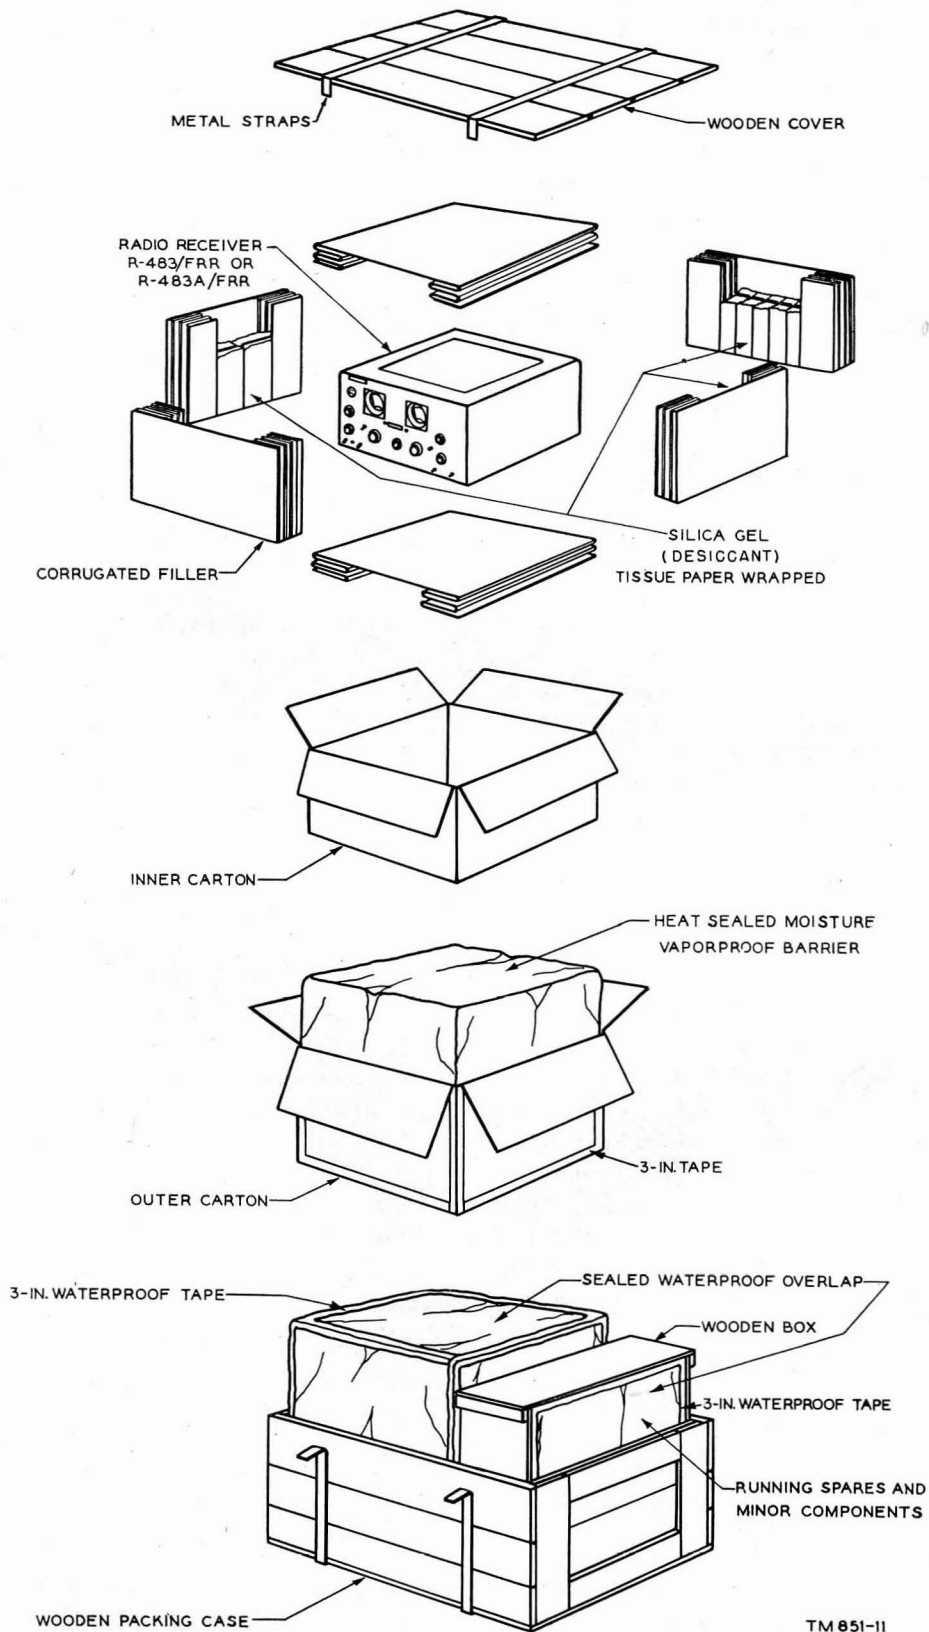

Figure 12. Packing and packaging Radio Set SCR-244-D and running spares.
*b. Step-by-Step Instructions for Uncrating and Unpacking Export Shipments* (fig. 12).
- (1) Place the packing case near the operating position.
- (2) Cut and fold back the metal straps.
- (3) Remove the nails with a nailpuller to remove the top of the packing case.
- (4) Remove excelsior, if any, from around the cartoned receiver, the cartoned operating components, and the running spares.
- (5) Remove the cartoned receiver and the wooden box containing the cartoned running spares and accessories.
- (6) Remove waterproof tape from the waterproof overwrap around the cartoned receiver, and then remove the paper.
- (7) Open the carton and remove the inner carton containing the receiver.
- (8) Remove the heat-sealed, moisture-vapor-proof bag from around the inner carton.
- (9) Open the inner carton and remove the silica gel desiccant (nine bags, each individually wrapped in tissue paper).
- (10) Remove the wooden frame from the inner carton (used with rack-mounting models); also remove the corrugated interiors comprising two side pieces, one front (if any), one back, and one top.